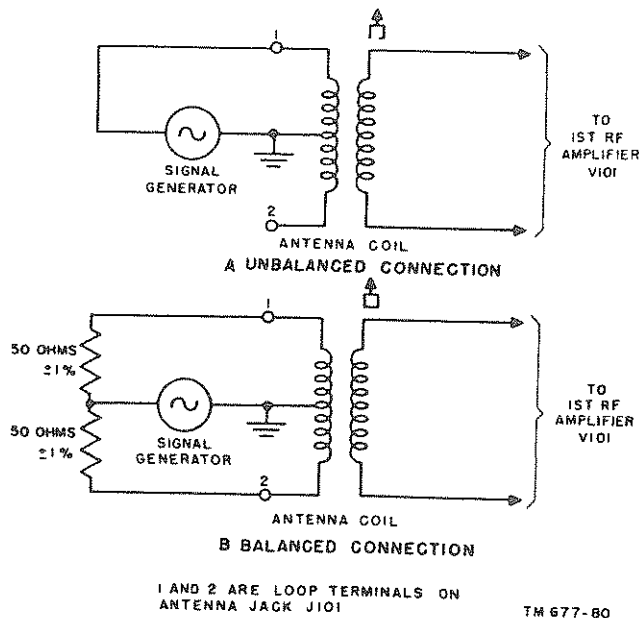

Figure 80. Dummy antenna connections for preliminary antenna coil balance.
antenna circuit accurately. A preliminary balance can be performed at the center frequency while the receiver is on the bench, out of its cabinet, by using the dummy antenna connections shown in A and B, figure 80. Perform the final balance in a screen room under a transmission line as described in paragraphs 147a(2) and 161.
b. For preliminary balance, connect signal source No. 1 and dummy antenna first as shown in A, figure 80 and then as shown in B. The receiver must be set up under the standard receiver conditions described in paragraph 134; then proceed as follows:
- (1) With signal source No. 1 connected as shown in A, figure 80 set signal generator to the desired test frequency and tune the receiver to this frequency. With BFO PITCH control S103 in the OFF position and receiver SENSITIVITY control R171 and AUDIO VOLUME R184 in any convenient position below the point of receiver overload, adjust signal source No. 1 output to produce 1.3 volts of receiver output. The signal-plus-noise to noise ratio can be of any convenient ratio as long as the signal is substantially above the noise level. Read the signal source No. 1 attenuator setting.
- (2) With the signal source No. 1 and dummy antenna resistors connected as shown in B, figure 80, without changing any of the receiver controls, increase the signal generator output until 1.3 volts of receiver output is again obtained. Adjust the balance of the antenna coil for minimum power output and keep increasing the signal generator output to keep the receiver power output at 1.3 volts. The balance point is the adjustment at which no further reduction in power output occurs. The signal generator attenuator output at this point divided by the signal generator output obtained in the unbalanced connection is the balance ratio. This test should be performed on all bands. Refer to paragraph 161 for balance ratio values.